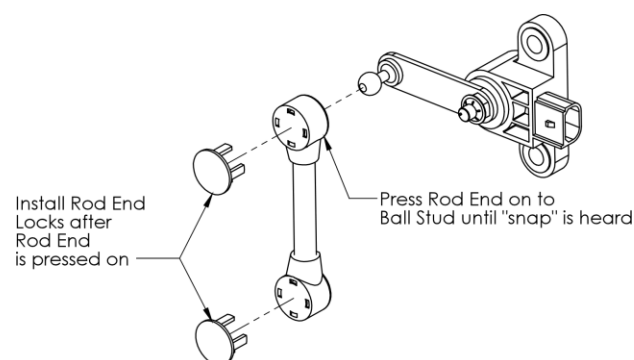
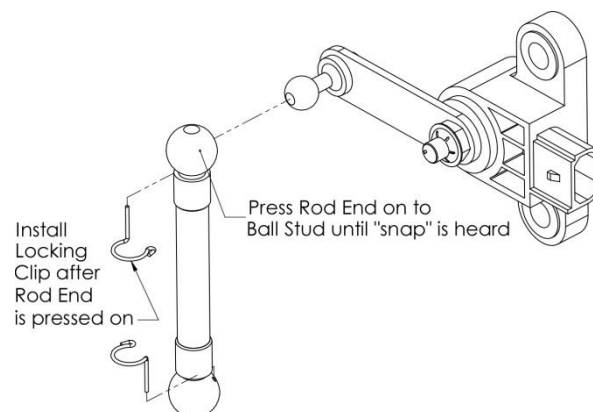

Figure 32. Sensor Plastic Linkage End Installation
Figure 33. Sensor Metal Linkage End Installation.
15. Snap the Linkage Assembly to the ball stud attached to the lower control arm and to the ball stud on the Sensor arm. Refer to **Figure 32** or **Figure 33** for detail of linkage.